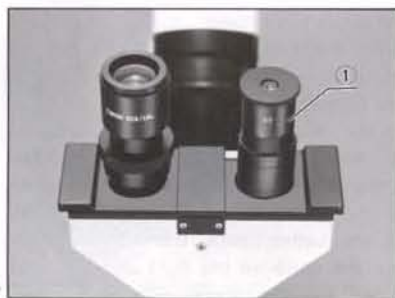

Fig. 17
- 1) Place a specimen on the stage and focus on it. Remove one of the eyepieces from the observation tube and insert the centering telescope CT-5 ① provided into the observation tube. (Fig. 17)